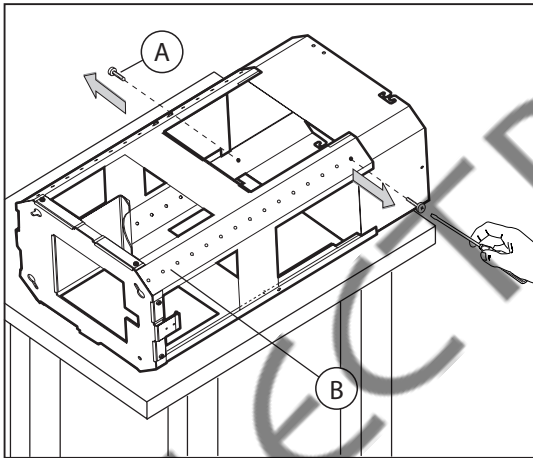

Fig.2
- Remove the structure from the packaging and remove the 2 screws **A** to separate the upper part from the lower part (Fig.2).